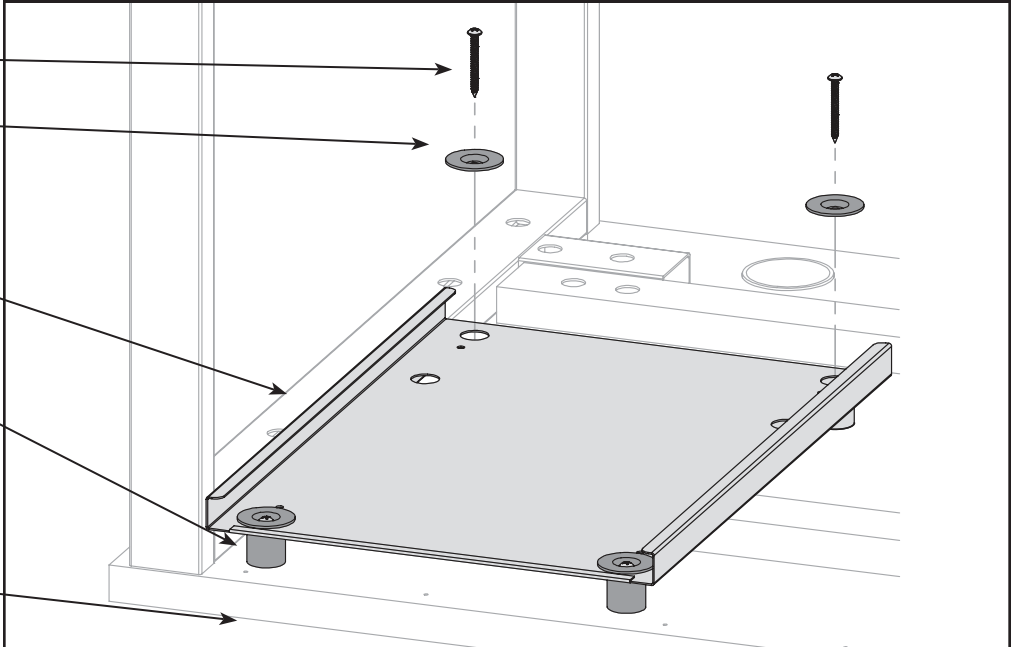

FIGURE 5
7. Install plastic bin into the bin bracket. **[FIGURE 5]**